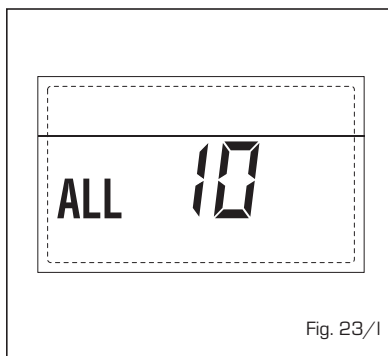

Fig. 23/i
– **ACTIVATION OF THE EXHAUST FUMES SENSOR ERROR 13** (Fig. 23/p)